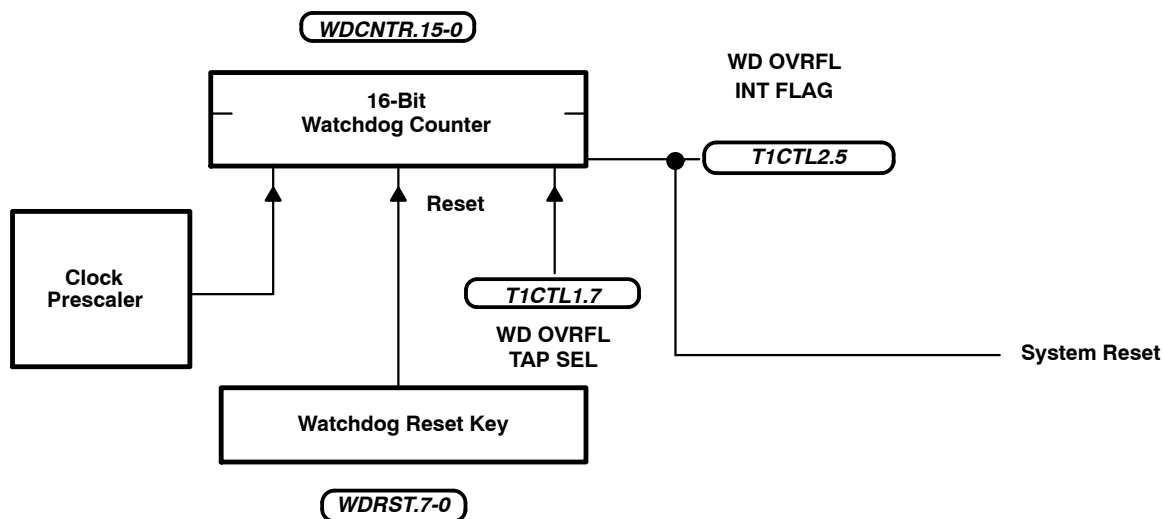

Figure 10. Hard Watchdog
- Hard watchdog configuration (see Figure 10) – for mask-ROM devices: